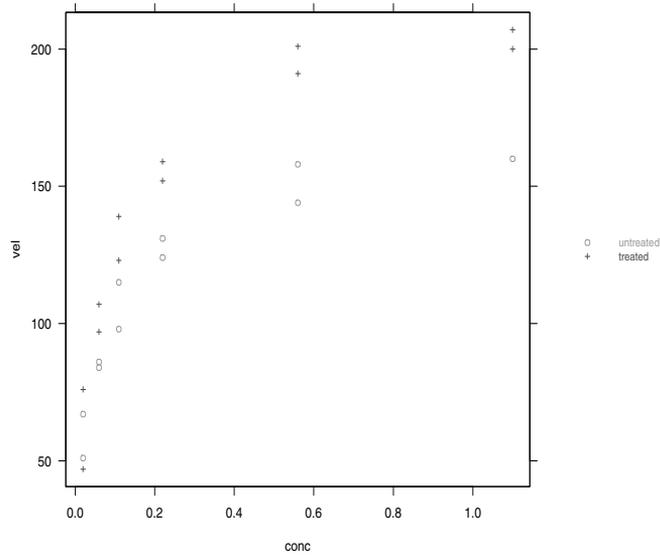

Figure 6.40: Scatter plot of the Puromycin data.
The data set *Puromycin* has 23 rows representing the measurement of initial velocity of a biochemical reaction for 6 different concentrations of substrate and two different cell treatments. Figure 6.40 plots velocity versus concentration with different symbols for the two treatment groups (treated and untreated).
In order to fit a nonlinear regression model, we must specify the form of the nonlinear model, the name of the data set, and starting values for the parameter estimates. Examination of Figure 6.40 suggests starting values of $V=200$ and $K=0.1$, treating all observations as a single group. We fit a Michaelis-Menten relationship between velocity and concentration as follows:
4. Figure 6.40 suggests starting values of $V_m=160$ and $delV=40$, while the previous model suggests $K=0.05$. Type the starting values $V_m=160$, $delV=40$, $K=0.05$ into the **Parameters** field.